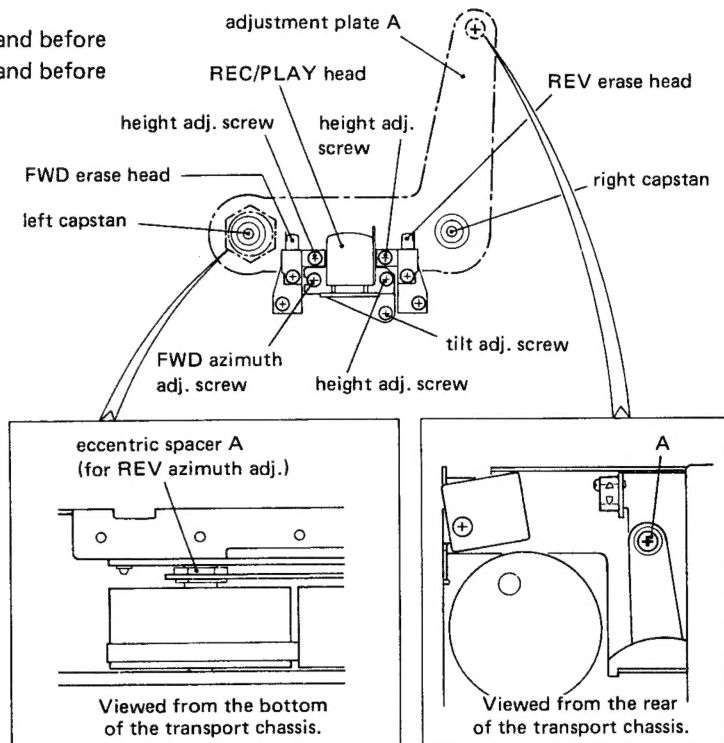
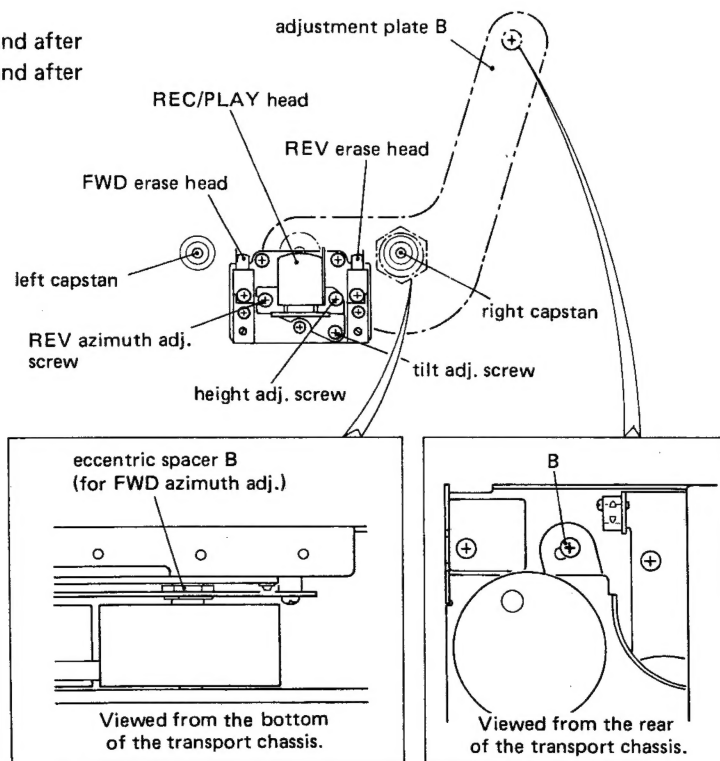

Fig. 4-3 Head construction of the older type
Fig. 4-4 Head construction of the newer type
Notes: 1. V-95RX/V-90R are divided into older and newer types with respect to the difference in head configuration and mounting method. To distinguish them, refer to Figs. 4-3 and 4-4. The alignment procedure is explained for the older type. For the newer type, the description below can be applied by changing the words in [].
15. Loosen the screw indicated by A in Fig. 4-3 [by B in Fig. 4-4].
Azimuth adjuster: Eccentric spacer A in Fig. 4-3
[Eccentric spacer B in Fig. 4-4]